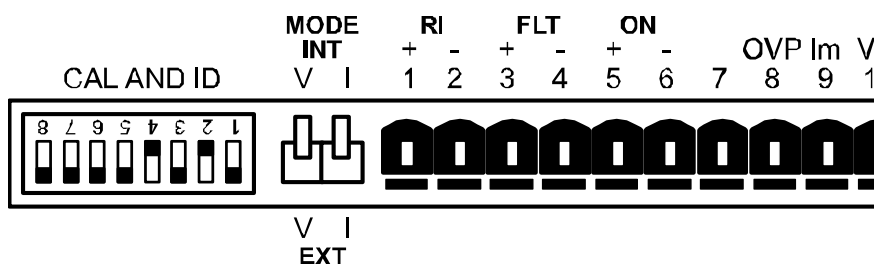

Figure 2-2 RI, FLT, ON and OVP Connections
The MPS has a Fault Indicator (FLT) output and a discrete Remote Inhibit (RI) input which are both interface independent and provide fault indication and remote output shutdown in the event of catastrophic failure. The Fault Indicator relay contact is open when the MPS detects no faults. When the MPS detects an internal fault, a remote inhibit, or an output inhibit, it lights the front panel Fault LED and closes the relay contact. The contact closure alerts other system components of the fault. In an auto-parallel system (up to four MPS units connected in parallel) these signals connect in parallel between each of the MPS units (See Paragraph 2.6 for details on connections between two auto-parallel units). Make connections to a rear panel detachable terminal block defined in Table 2-3 and Figure 2-2.
The MPS provides a discrete ON indicator. Terminals 5 and 6 on the terminal block connector, shown in Figure 2-2 above, connect to relay contacts that close when the front panel circuit breaker is in the ON position. There is also a front panel LED that lights when the MPS is ON and connected to AC power.
Remotely program MPS output current by an external voltage or potentiometer. Enable external analog programming via the rear panel I MODE switch. When the I MODE switch is in the INT I position, external current mode is disabled. When the I MODE switch is in the EXT I position, the external programming voltage is summed with the internal programming voltage. Set the internal programming to zero for external programming only. Apply an external voltage from Ip to m of 0 to 1.25 volts or use a 10 K Ω potentiometer to control the output current over the entire range. Make connections to rear panel detachable terminal block defined in Tables 2-3 and 2-4 and Figures 2-2 and 2-3. The MPS produces 100 A of output current for 1 V at the current programming input.